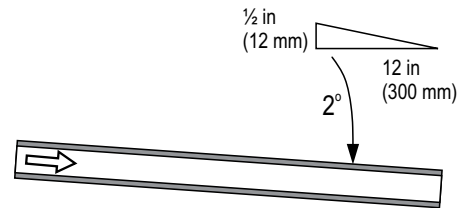

Figure 15: Condensate Drain Lines
- The condensate drain line from the steam distributor must have a constant minimum downslope of 1 in/48 in (1.2°), with a minimum trap height of 8 in (200 mm), and may be connected to the fill cup port on the top of the humidifier, or to the building floor drain with condensate cooler as required. The condensate trap must be at least 12 in (300 mm) below the condensate port on the steam distribution system or the "T" connector in the steam line. Refer to Figure 15.